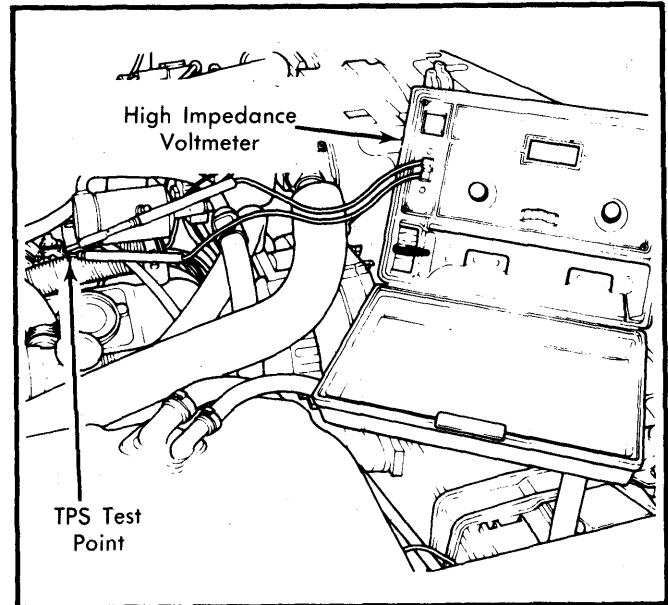

Fig. 8 Test Point Location For Throttle Position Sensor Adjustment
9) Turn ISC motor nosepiece adjustment to obtain a reading of 1.06 volts at TPS test point. See Fig. 8. Disconnect all test equipment and reconnect all wiring. Turn ignition on for 10 seconds and observe ISC plunger movement. When ISC plunger is fully extended, turn ignition off.